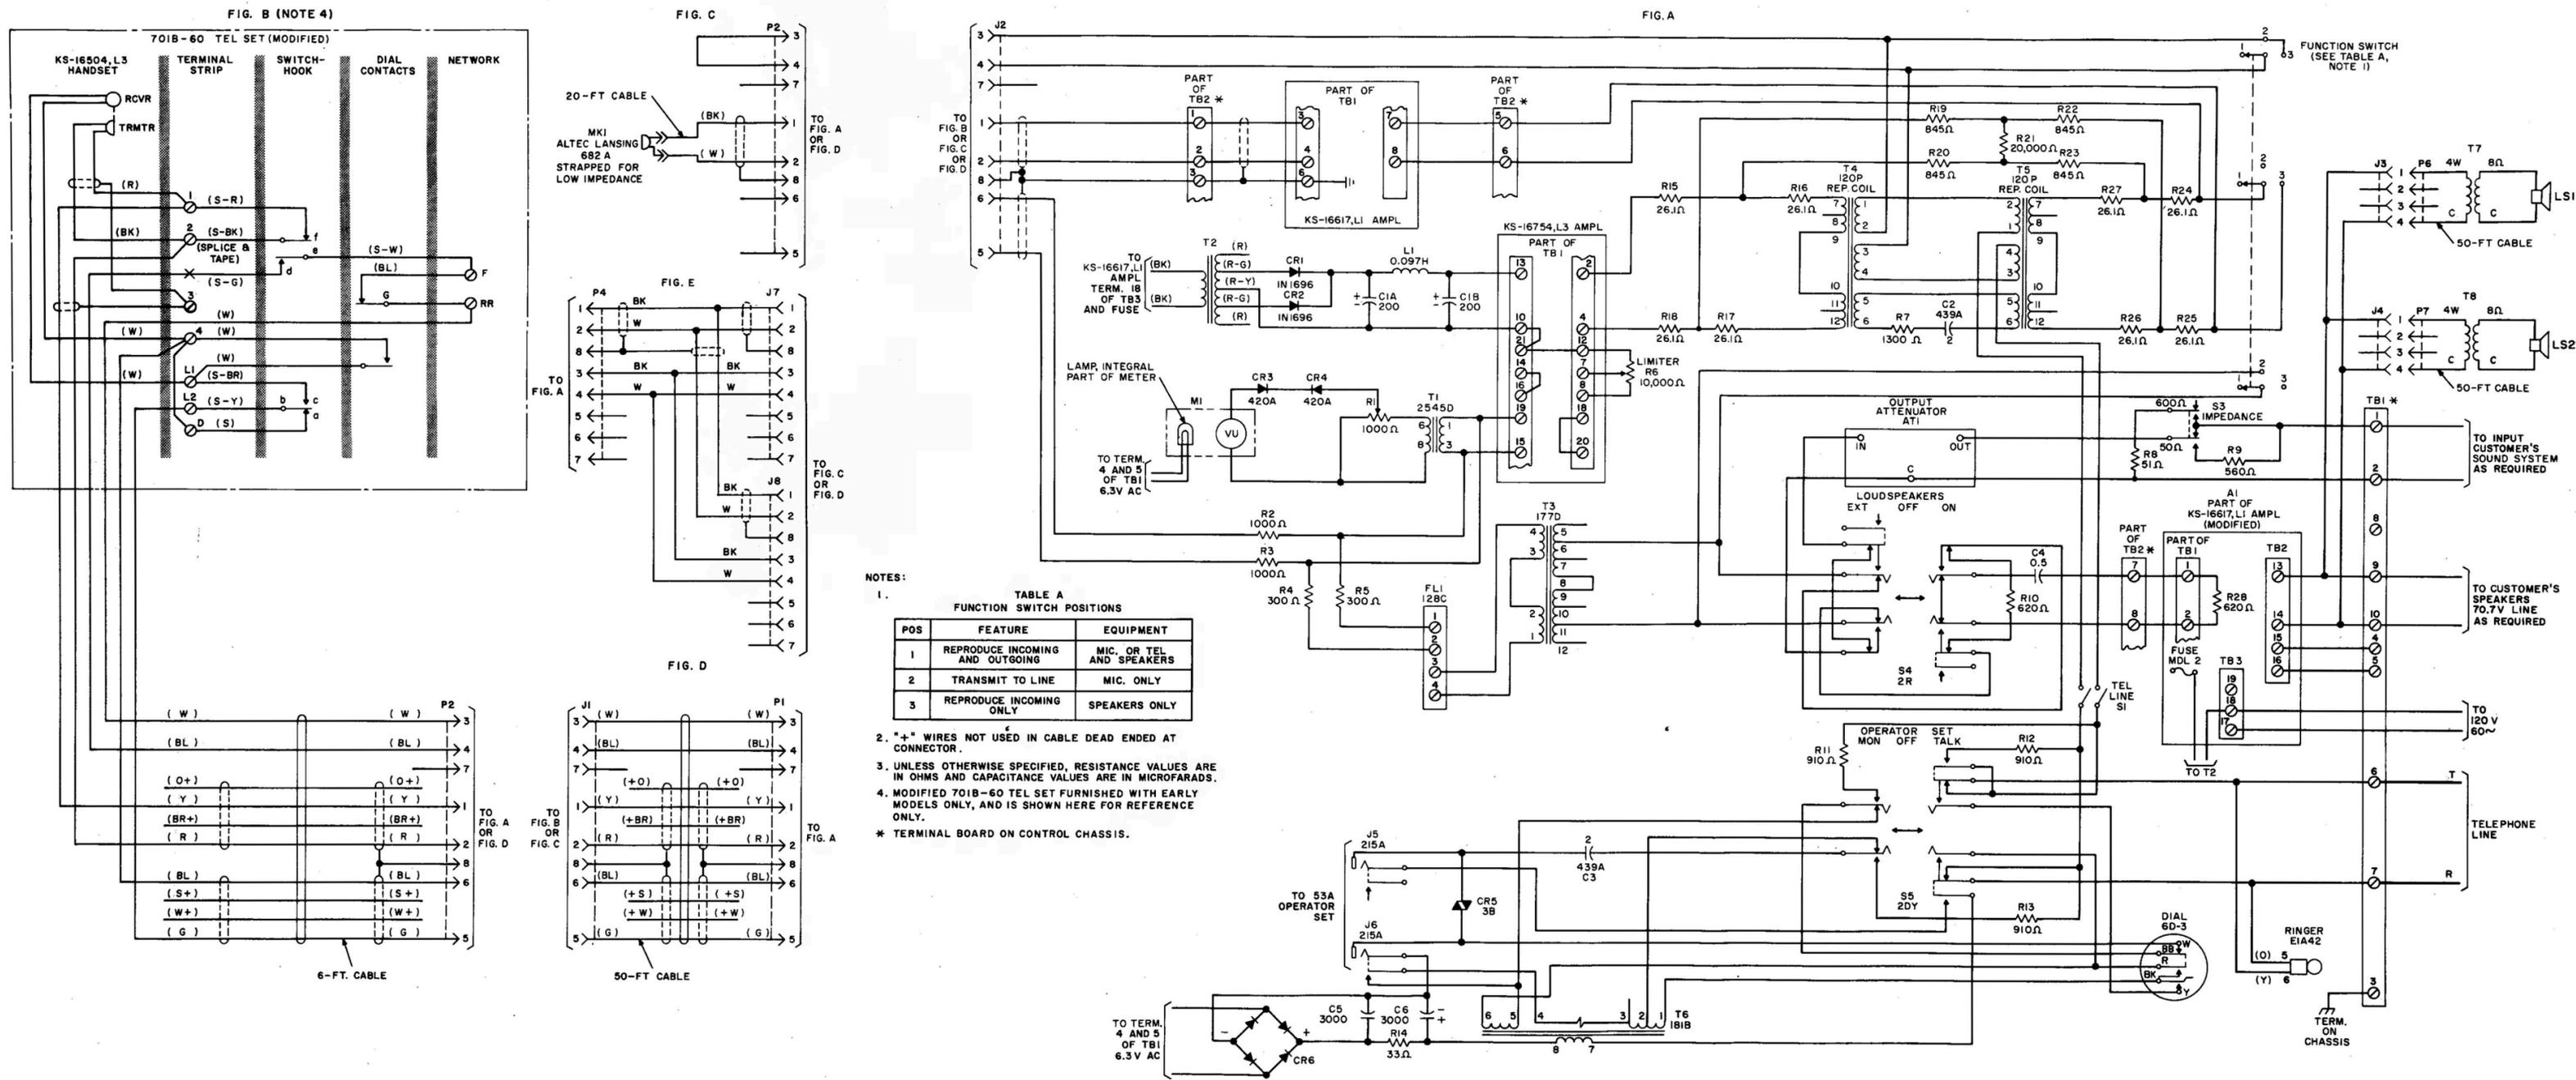

Fig. 4 — KS-19134, List 1 Conference Set, Schematic
3.07 Fig. 4 is a schematic of KS-19134, List 1 conference set.